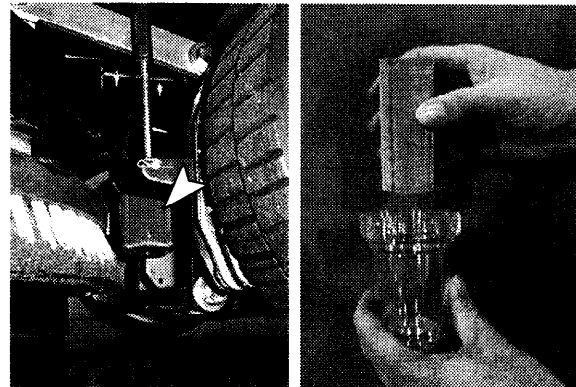

Figure 36
1. Remove solution bowl filter and clean screen, filter is located behind scrub head under machine. Make sure solution tank is empty before removing filter (Fig. 36).